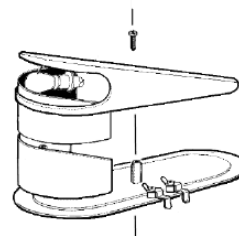

figure 12
- 3 Replacement of lighted top cover bulb: remove the fixing screw placed in the upper part of the top cover, remove the lower part and replace the bulb (using a 24-28V 21W max bulb). Reassemble the top cover and replace the fixing screw. (vedere figure 12)